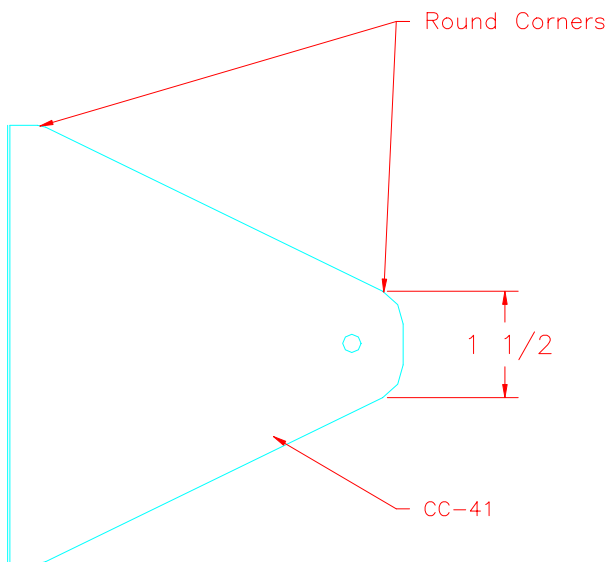

Figure 15.6.8
11) Remove the assembly and trim the Bell Crank Brace (CC-41). Figure 15.6.8.